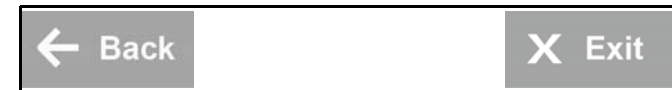

Figure 4-6
1. As applicable, end any test being performed, and then select the **Exit** or **Back** icon from the upper toolbar (Figure 4-6).